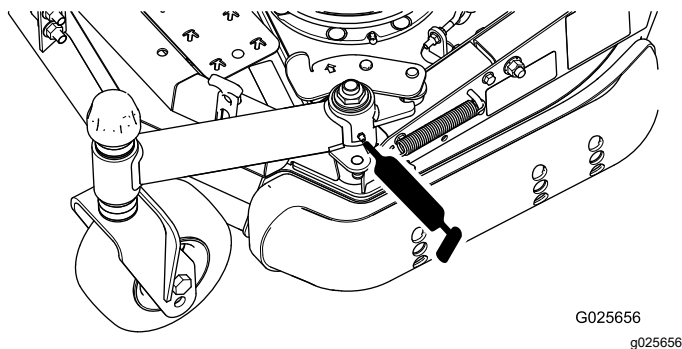

Figure 21
- Pivot de bras pivotant repliable (1) (Figure 21)